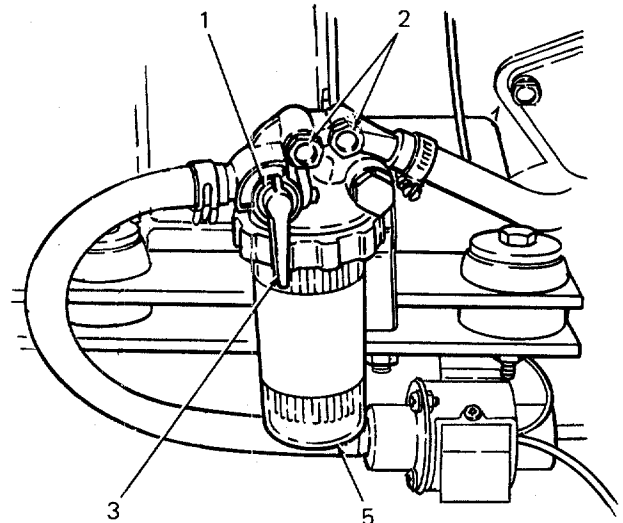

Figure 35
1. Fill the fuel tank. Open the fuel shut-off valve. (See Figures 35 and 36.)
1. Close the fuel filter cup shut-off valve. (See Figures 35 and 36.)